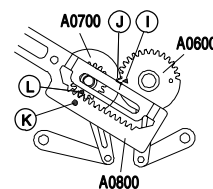

Fig. 14
- When refitting the threading arms (Fig. 14) the circular mark ① (Pos. A0600) must be opposite the notch ② (Pos. A0700).
- When refitting the threading rack gear (Pos. A0800, Fig. 14) the hole ③ must be opposite the circular mark ④ of the threading slide (Pos. A0700).
- Attach the retaining washer (Pos. A0900, Fig. 14).